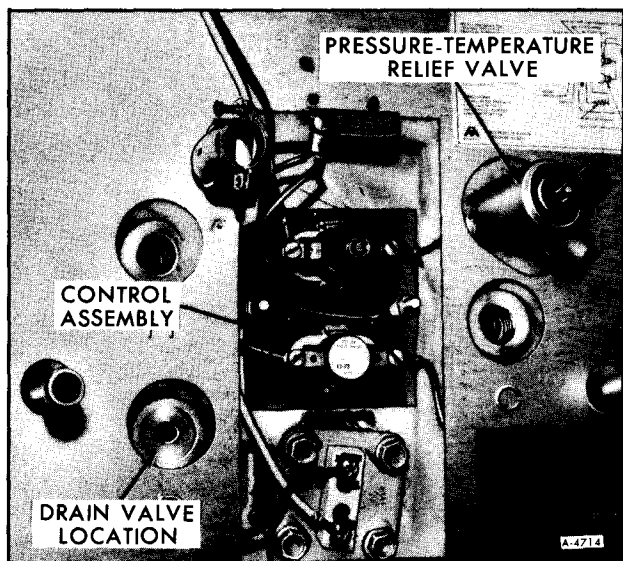

Figure 39—Control Assembly Location
3. Disconnect wire and remove control assembly, Figure 39.